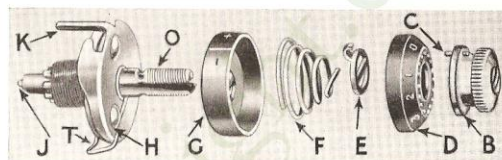

Fig. 57.
**Note:** It is not necessary to remove stud O from the machine arm to disassemble the thread tension. It is shown removed in Fig 57 only for the purpose of illustration.